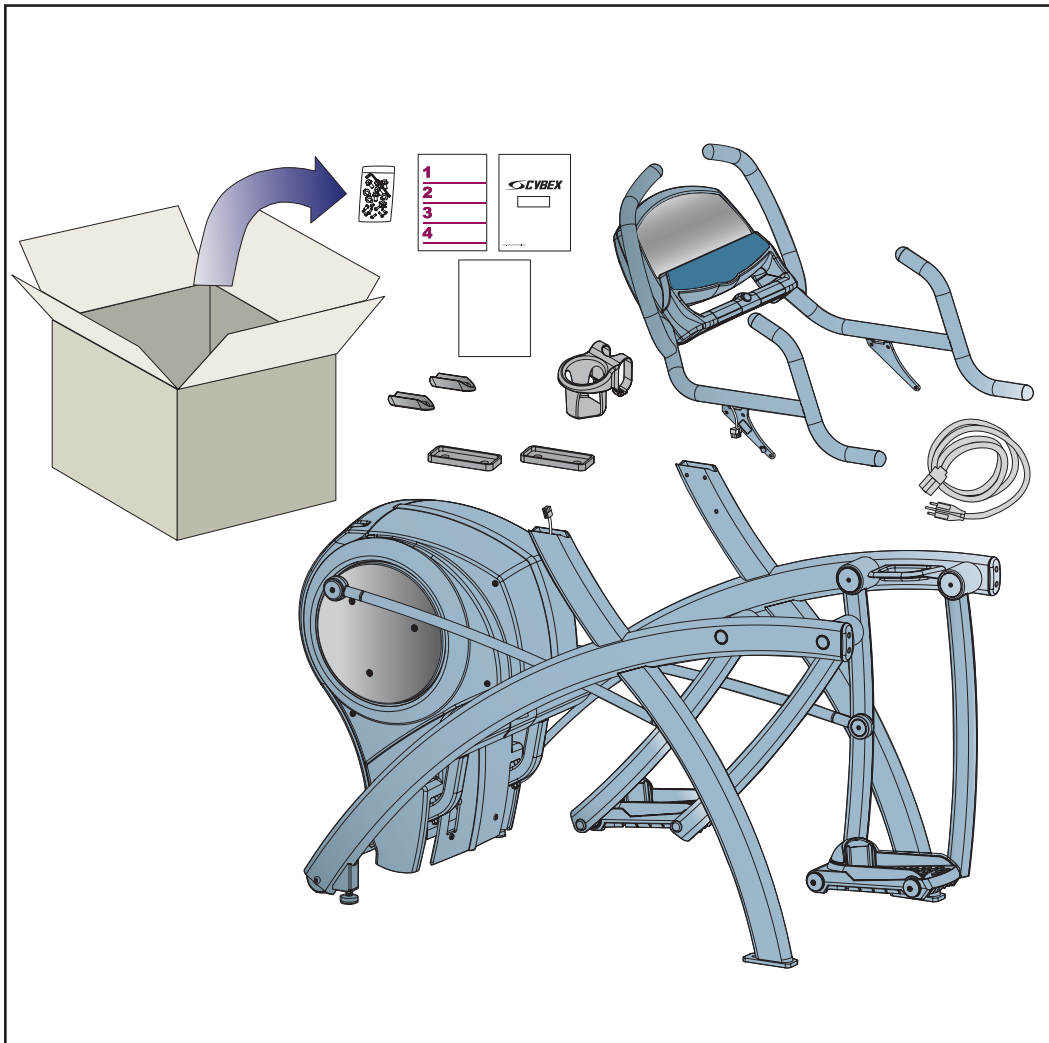

Figure 1
D. Check to be sure that the following items are present. Check off (✓) each item as you find it. See Figure 1. If any of the parts are missing contact Cybox Customer Service.